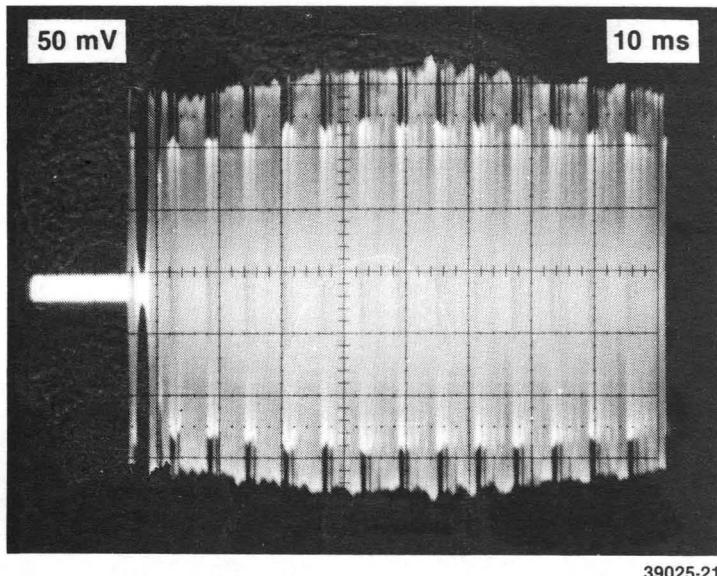

FIGURE 5-5. HEAD LOAD ACTUATOR TIMING
- e. Energize head load solenoid and observe read signal on oscilloscope. Signal must be at 50% of full amplitude by 35 msec. See figure 5-5.